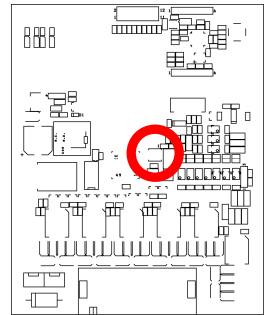

Figure 1. Coding pushbutton
3. Locate and press the coding pushbutton on the receiver board (figure 1);
4. Press simultaneously the coding button on the receiver board (fig. 1) and **START** key on the transmitter for 3-4 sec., so release the 2 keys;
6. Press simultaneously the coding button on the receiver board (fig. 1) and **STOP** key on the transmitter for 3-4 sec., so release the 2 keys;